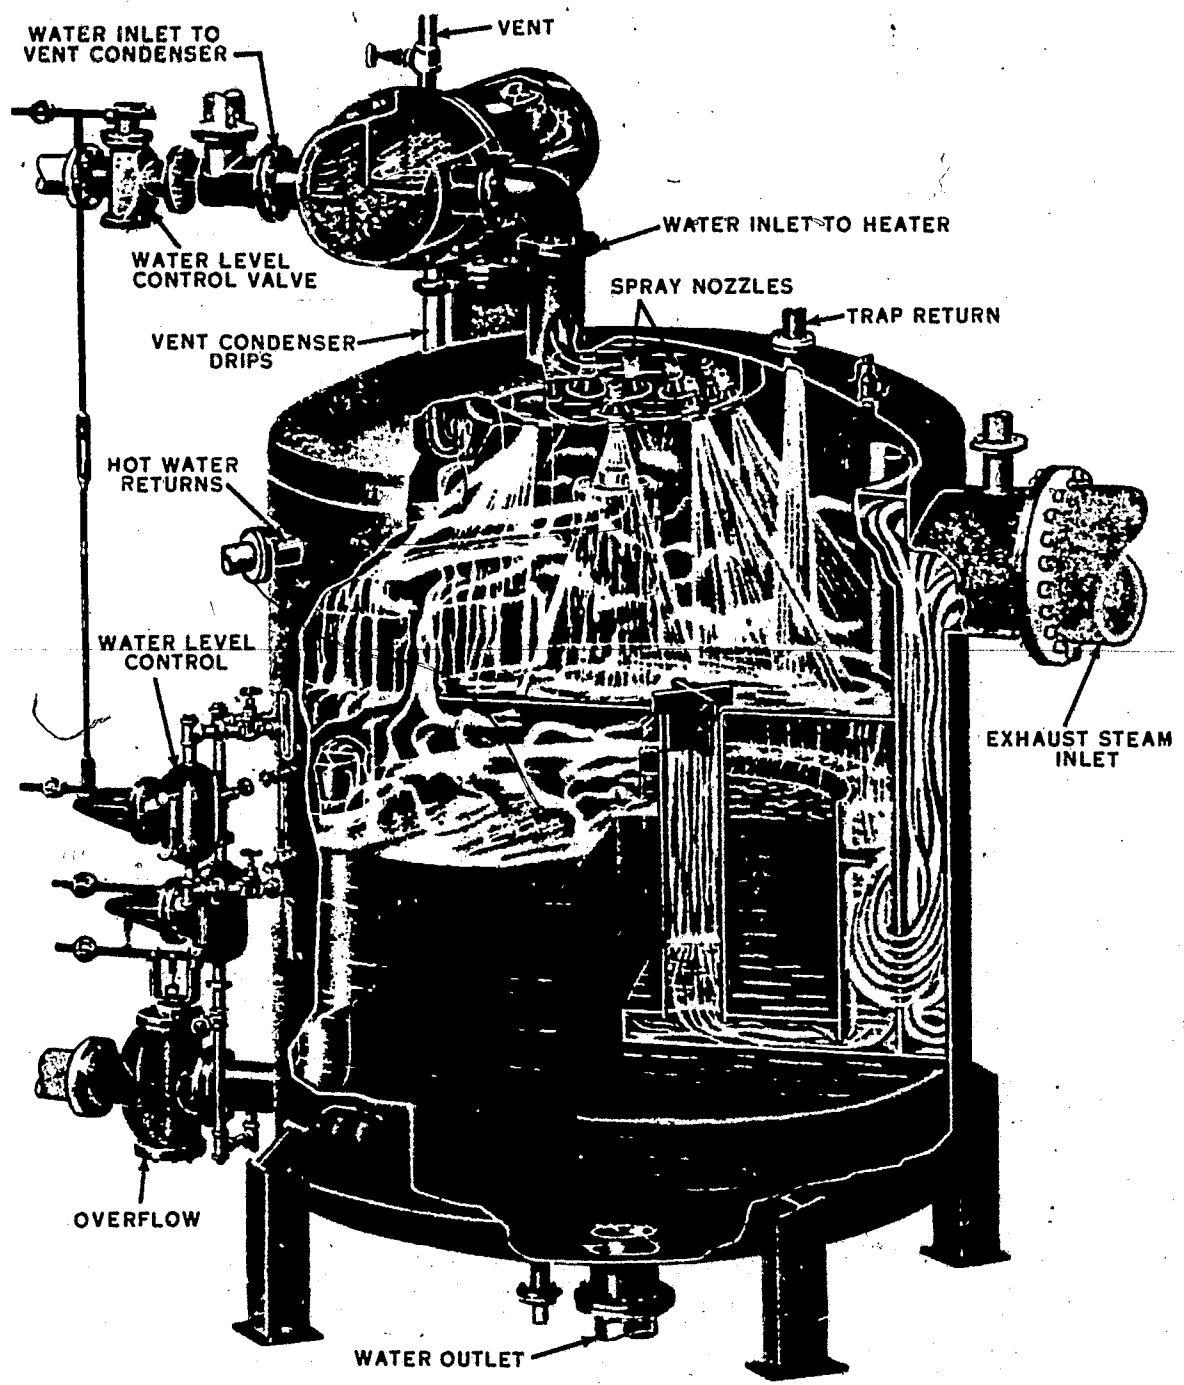

Figure 23. Spray-type deaerating heater.
16. In the spray-type deaerating heater the water is broken up by spray valves instead of being allowed to cascade through a tray stack. Figure 23 illustrates a spray deaerating heater. The water is heated to the saturation temperature. Other than the difference in which the water is broken up, the spray deaerating heater works in much the same way as the tray-type.